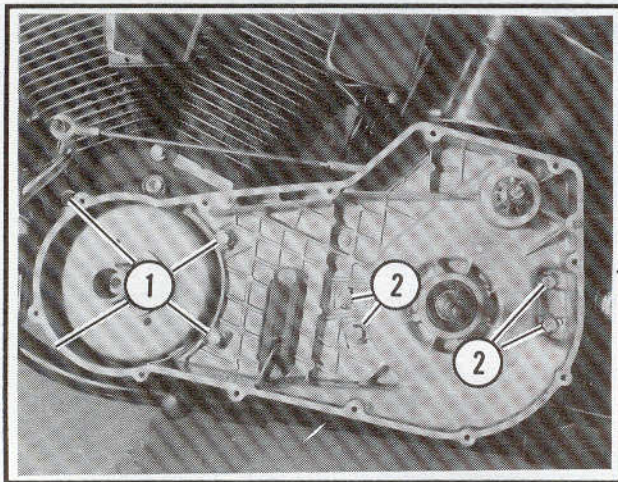

Figure 6-18. Primary Chaincase Mounting
5. See Figure 6-18. Remove the primary-to-engine mounting hardware (1). Remove the primary-to-transmission mounting hardware (2).
4. See Figure 6-18. Attach the inner primary to the transmission using the original hardware. Do not tighten hardware yet. Replace locktabs if necessary.
5. Attach the inner primary to the engine using the original bolts and washers. Tighten bolts (1) to 18-22 ft-lbs torque. Bend up the locktabs of the two inner primary-to-engine bolts.
6. Align the transmission case so the inner primary does not bind on the mainshaft or mounting hardware. Tighten bolts (2) to 18-22 ft-lbs torque and bend locktabs into place.